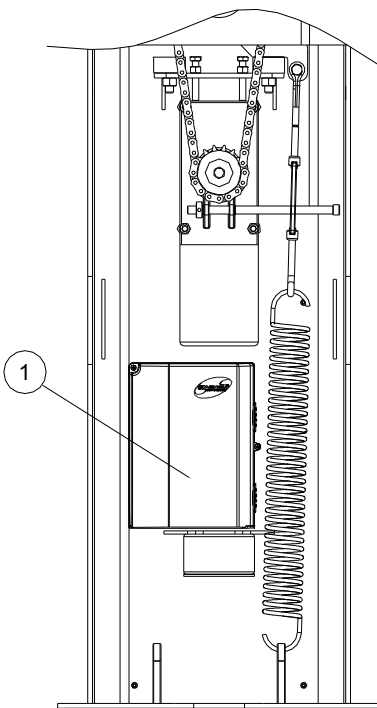
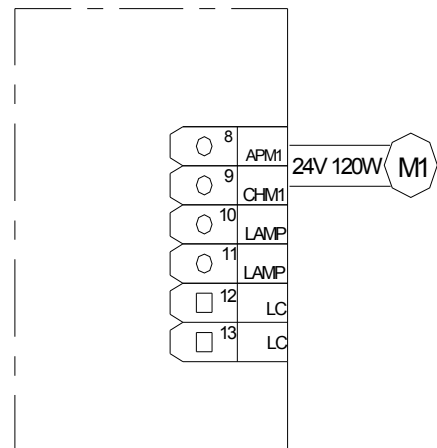

Fig.8
Fig. 9
- To invert the opening direction of the arm, move the spring to the opposite position (Fig.8) and invert the connection of the electric motor to the control panel (Fig.9).